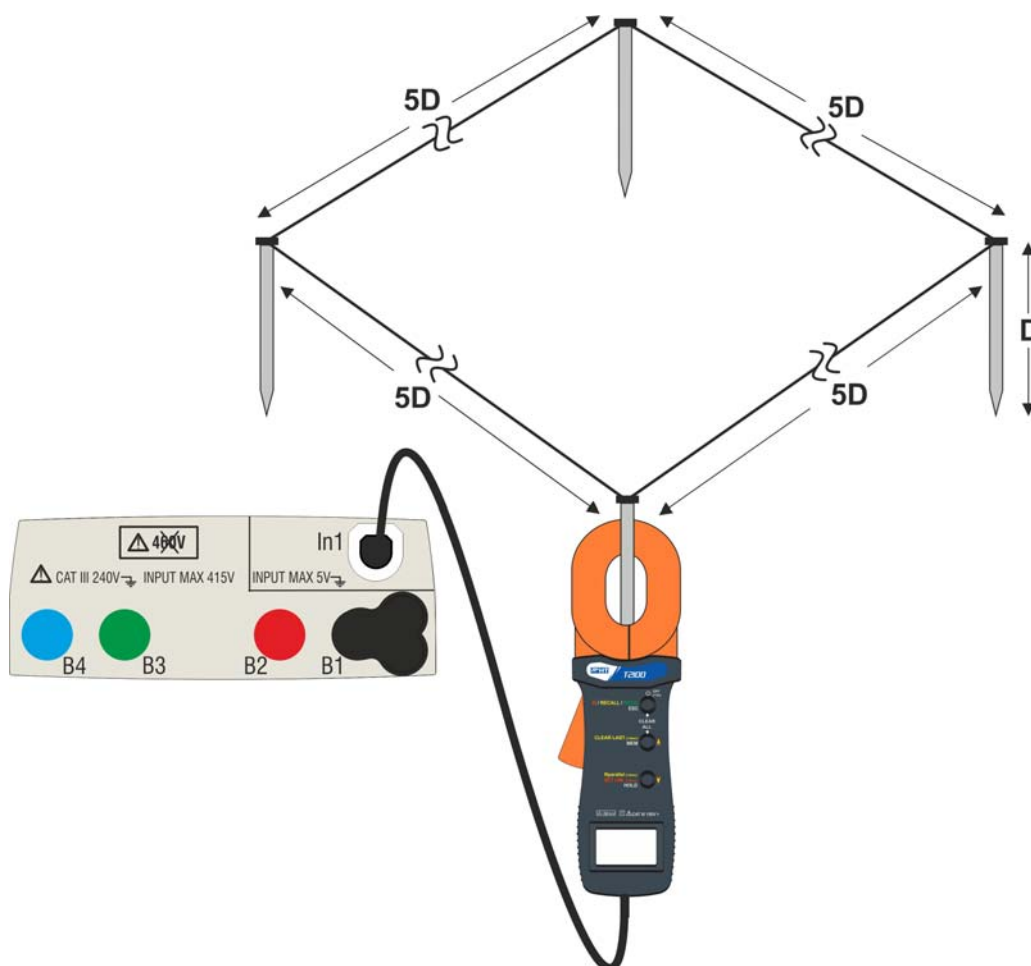

Fig. 30: Resistance measurement of single rods with clamp T2100
The measurement carried out by clamp T2100 can be used to evaluate single rods resistance values within an earth installation without disconnecting the rods, **assuming they do not affect each other** (see Fig. 30).
4. Connect the clamp to the first rod of the earth network considered as shown in Fig. 30. Note the value of the resistance in the **R** field and press the icon to insert this value in the calculation of parallel resistance and increase the **N** parameter by one unit (N=1)